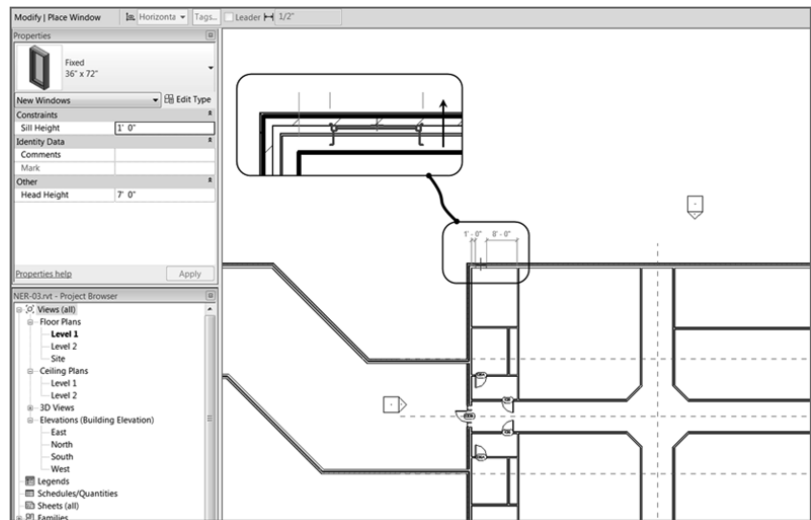

FIGURE 2.78: Depending on which side of the wall your cursor is on, you can add a window to the correct orientation.
3. Add the window to the corner of the building, as shown in Figure 2.78. Be careful with the placement. If your cursor is toward the exterior of the wall, the window will be oriented correctly, and the window tag will appear on the outside of the wall.